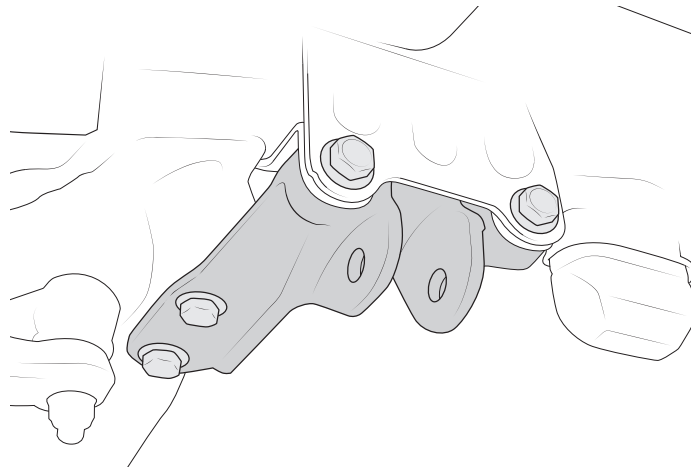

Figure 22
- A. Remove factory frame-side track bar bracket from frame. SAVE hardware and discard bracket (fig. 22).